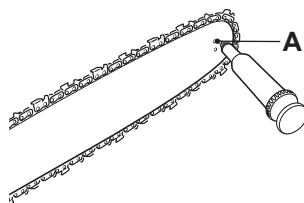

Fig. 46
**NOTE:** It is not necessary to remove the saw chain (3) to lubricate the sprocket nose (5). Lubrication can be done on the job.
- > Clean the sprocket nose (5).
- > Using a disposable lube gun, insert the nose of the needle into the lubrication hole (Fig. 46, A) and inject grease until it appears on the outside edge of the sprocket (5) (Fig. 46).